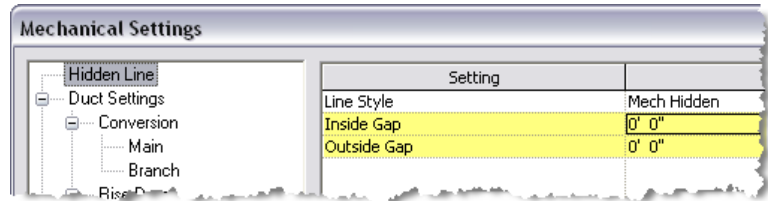

Figure 2 - Turning Off Hidden Line Gaps
- If not necessary for documentation of working on a View, set the Inside and Outside Gap settings for Hidden Lines to 0, as seen on the right in Figure 2. This can provide substantial performance improvements.